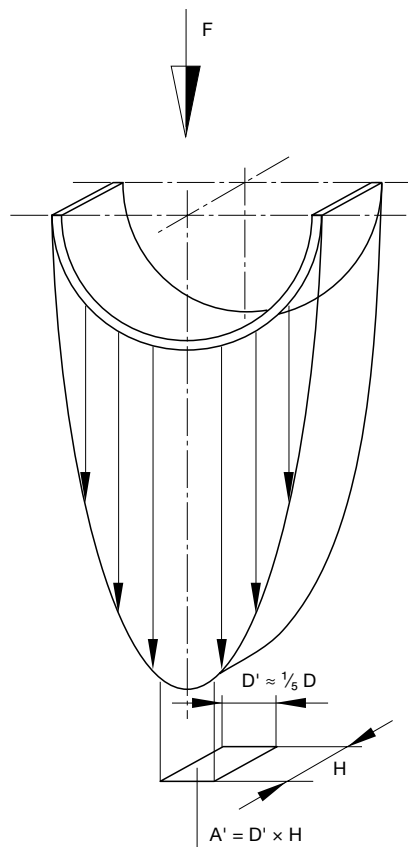

Fig. 6.1 Pressure distribution on bearing area
These lateral forces (F) lead to a pressure distribution as shown in fig. 6.1. In practice, calculation based on the projected surface has proved to be a simple and more useful method. This means that the load carrying area (A) can be calculated from the length (H) multiplied by the diameter (D) (see fig. 6.2). The surface obtained is about 5 times larger than the assumed bearing area of fig. 6.1, so that lower specific loads must be reckoned with. In order to obtain the same values for lateral forces “ F ”, the specific load must be only $1/5$ of the max. force shown in fig. 6.1. The indicated permissible specific forces ($F_{perm.}$) take this into account, and the admissible specific pressure mentioned relates to the projected area as shown in fig. 6.2.